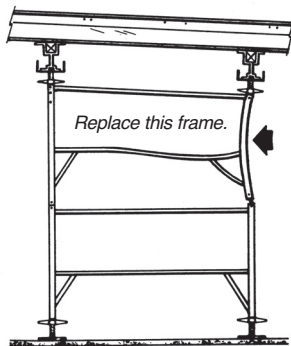

Figure 208
- If frames do not ride tightly on top of one another after tightening, one or more are out of square and should be replaced (Figure 208).